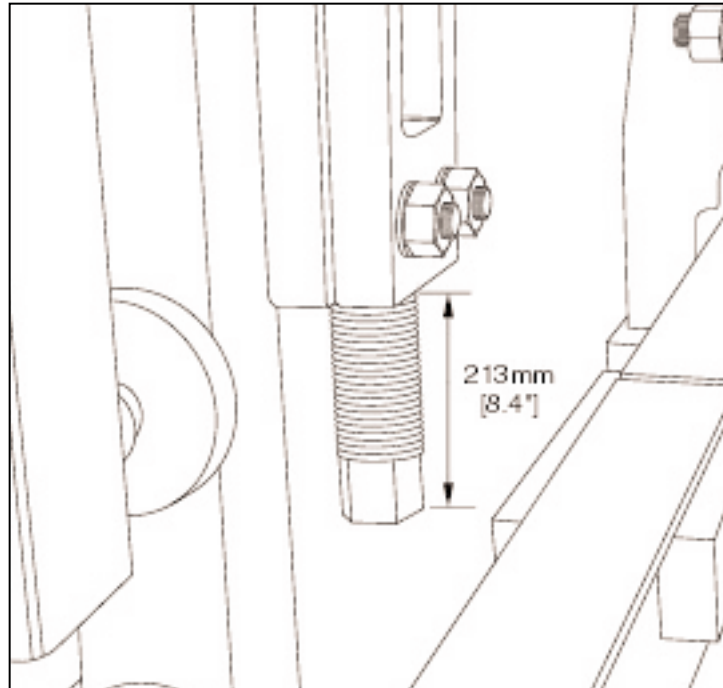

Figure 18.51 UPPER HEIGHT STOPS.
18.3.9 Adjust the upper height stops so that **213mm [8.4"]** extend past the bottom of the castings as shown on figure 18.51.